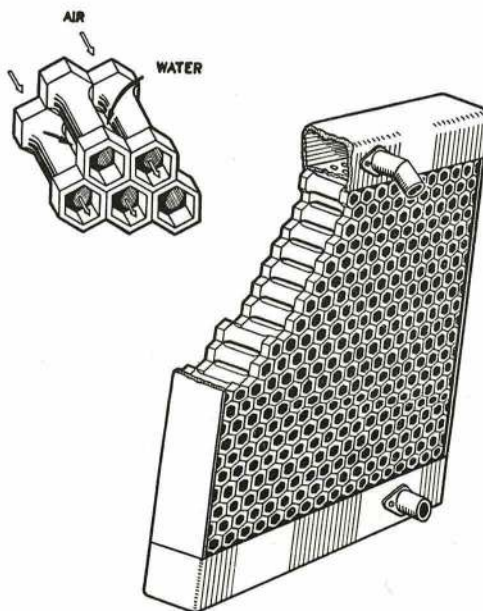

Fig. 17. HONEYCOMB RADIATOR
27. Honeycomb Radiator. This type of radiator (Fig. 17) is of the cellular type, and the core is made of a number of tubes which may be shaped like double-ended box spanners or they may be circular. The centre portions of the tubes are round and are smaller in diameter than the ends, the ends being soldered together; this formation leaves a small space between the tubes through which the water flows. The top and bottom tanks are soldered directly to the top and bottom of the core. Air flows through the hollow tubes and cools the water as it flows down and around the outside of the centre portions of the tubes on its way from the top to the bottom tank.